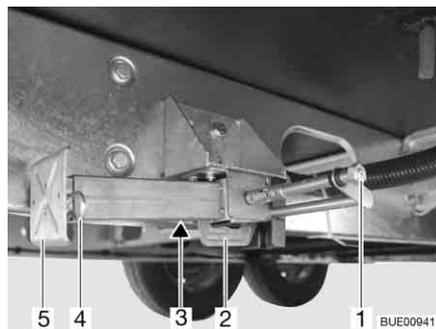

Fig. 52 Steady leg
- Place the socket spanner on the hexagonal nut (Fig. 52,1) and rotate until the steady leg is in a perpendicular downward position.
- If the length of the steady leg can be adjusted, remove the splint (Fig. 52,4) out of the support foot extension (Fig. 52,5).
- Place the socket spanner on the hexagon nut (Fig. 52,1) and rotate until the steady leg is clear of the ground.
- Push in the support foot extension (Fig. 52,5) and insert the splint (Fig. 52,4) in the drilled hole in the support foot extension.
- Rotate the hexagonal nut (Fig. 52,1) until the steady leg has swung upwards and the guide (Fig. 52,2) has reached the very end of the slot (Fig. 52,3).